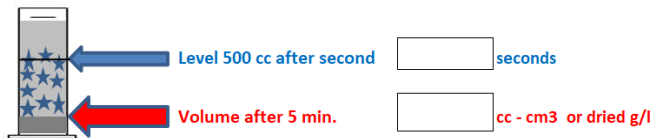

Fig. 1: Test procedure
1. Dissolve flocculants in clean potable water at a concentration of 0.1 % (m/m) or less according to the supplier instruction or application sheet see **Fig. 1**.
6. Shake 3 times according to instructions given in Fig. 1.